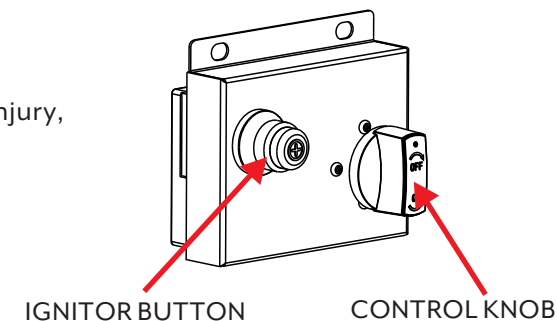

Figure 5
4. Adjust the flame to the desired amount by using the control knob. See Figure 5.